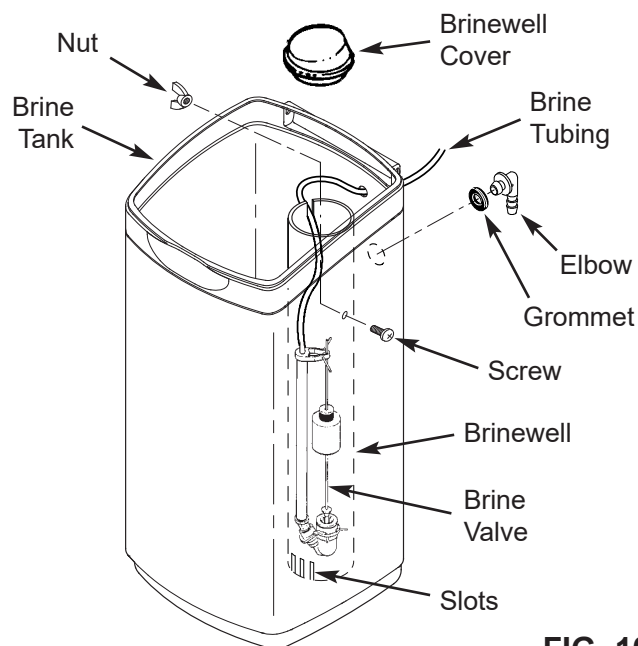

FIG. 10
- Place the brinewell into position in the brine tank, with the slots at the bottom, as shown in Figure 10. Align the mounting hole in the brinewell with the corresponding hole in the tank wall. Then use the screw and nut from the parts bag to fasten the brinewell in place.
- Lower the brine valve into the brinewell. Push the tubing into the brinewell top slot (Fig. 10) and route it out of the brine tank through the smaller hole in the rear wall of the brine tank.